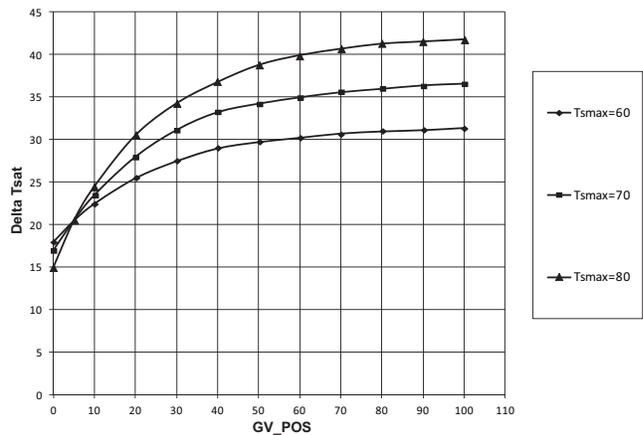

Fig. 38 — Effect of SURGE/HGBP DELTA TSMAX on Surge Prevention
- Surge/HGBP Delta Tmax is the maximum difference between cooler and condenser saturation temperatures. (See Fig. 38.)